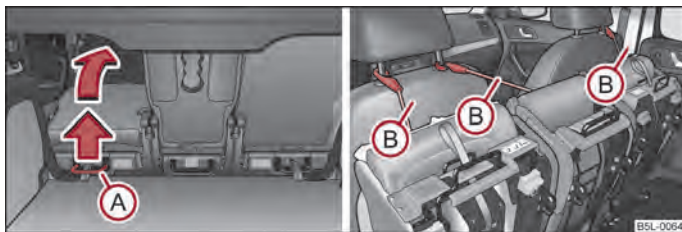

Fig. 51 Fold seat forward/secure folded forward seats
- Pull the lever ⇒ fig. 51 up and then fold the seat fully forwards.
- Secure the folded forward seat with the aid of the fixing belt (B) to a guide rod of the head restraint for the front seat ⇒ fig. 51.